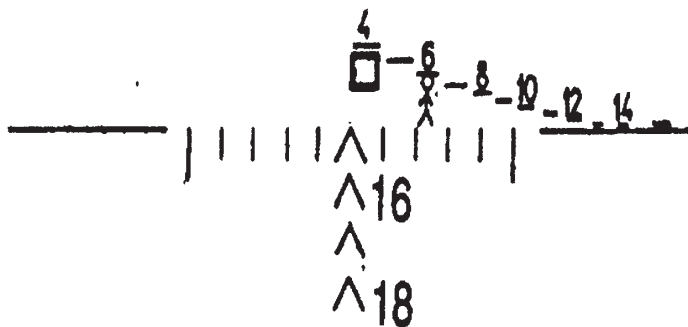

Fig. 10 – Reticle
- mount (1) with dovetailed guides which fit onto corresponding lugs in the shape of dovetail provided on the receiver. Along the whole length of the guide there is an opening bridged in the middle with a screw and a wing which, in proper position, tightens the mount to the receiver thus fixing the optical sight to the rifle;
- the scope (2) has fixed magnification of 8x. Up to the distance of 1400 m the reticle is adjusted by means of the corresponding knob marked from 4 to 14 on the top side of the scope; over 1400 m aiming is done by means of respective divisions at the reticle (Fig. 10).
- screw with fixing pin (3).
- firing range adjusting screw (4).
- traverse adjusting screw (5).